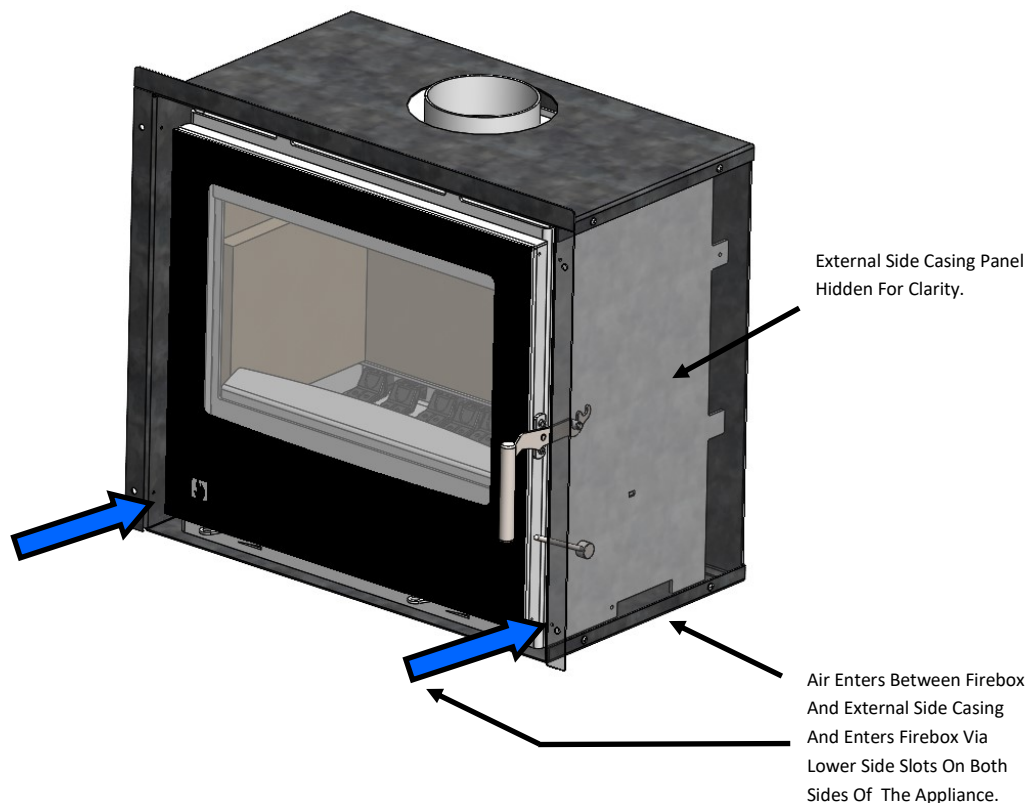

Fig. 3. Air Ventilation Example Diagram
- OPTION 1 : Room air, where by ventilation air from the dwelling room will enter the appliance (See Fig. 3).